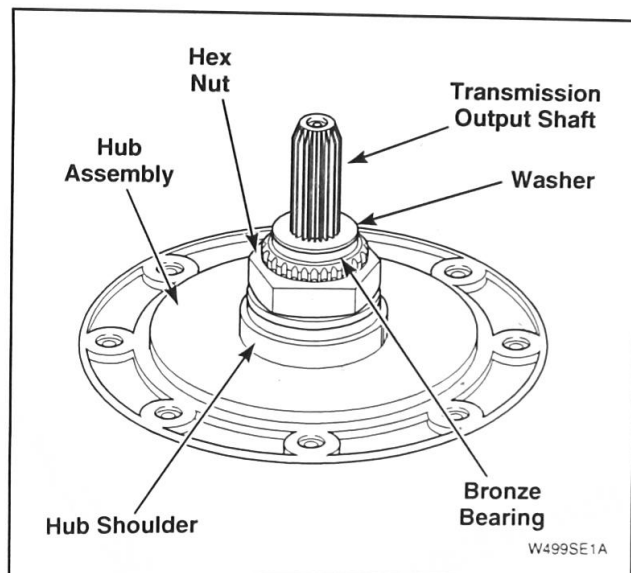

Figure 1
3. Remove large hex nut, using 306P4 Hex Wrench. Refer to *Figure 1*.